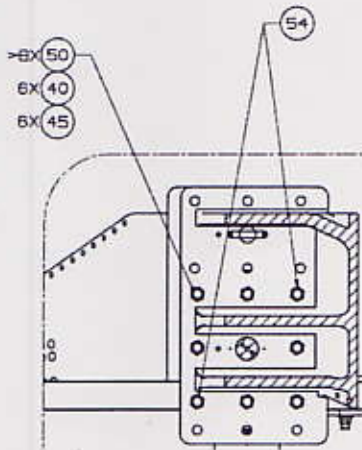
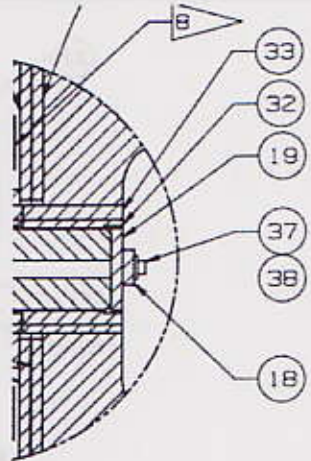

Figure 3
Figure 4
7. Remove the four (4) Shear Pin, Upper VC Joint P/N SDG39135755-005 and four (4) Shear Pin, Lower VC Joint P/N SDG39135755-001. NOTE: Retain the parts removed in this step as they will be reinstalled in a later step.
9. Install the eight (8) Bolts, Altered Item P/N SDG39135892-809, item 50 in Figure 3; Washers CSK P/N NAS1587-8C, item 40; Washers, Flat P/N NAS1149E0816R, item 45; two (2) Shims, Upper VC Joint P/N SDG39135754-801; one (1) Shear Pin, Upper VC Joint P/N SDG39135755-005; Bushing, Outer LG Upper VC Joint P/N SDG39135757-015, item 33 in Figure 4; Bushing, Inner LG Upper VC Joint P/N SDG39135757-013, item 32, into each of the four (4) Upper USS Joints of the Upper USS-02 Assembly per drawing P/N SEG39135726-302. Install two (2) Counter Sink Washer Upper USS Joint, SDG39135748-003, item 54 in Figure 3, in place of standard counter sink washers and flat washers. Peel or add shim as necessary to center the VC between the joints.